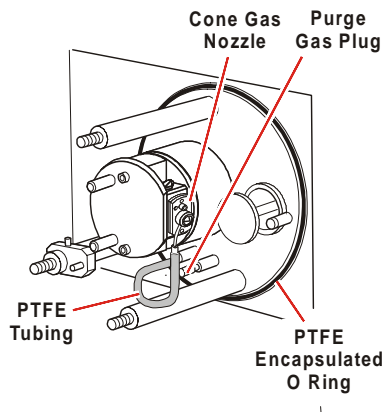

Figure 4-4 Nanoflow Source Without Cover
9. Connect the cone gas outlet to the cone gas nozzle using the PTFE tubing provided (Figure 4-4). Open the sample cone isolation valve.